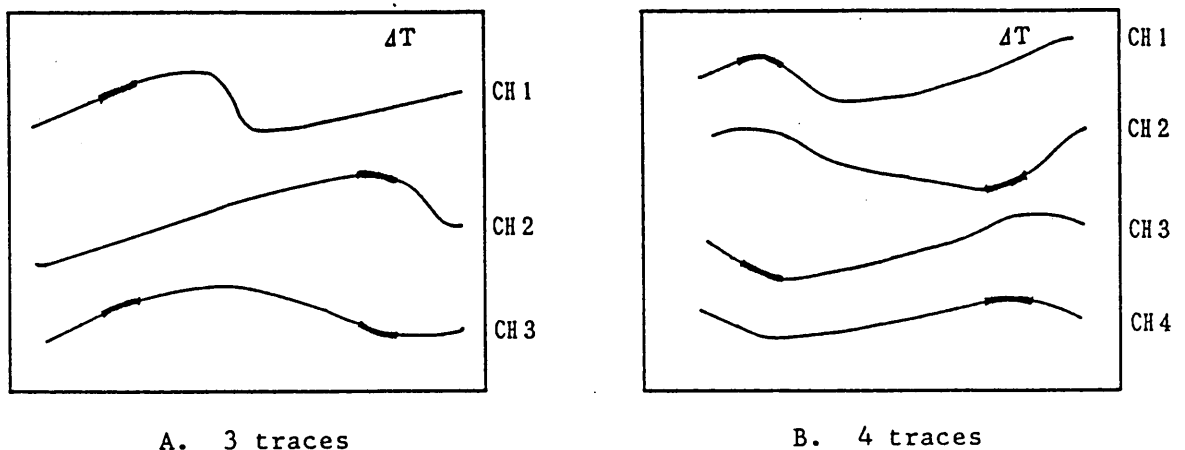

Figure 4-9. Multi-trace Delayed Sweeps
When in the 3-trace mode, one intensity-modulated section is displayed on each of the waveforms of the two leftmost channels as indicated at the VERT MODE ③⑨ and two intensity-modulated sections are displayed on the waveform of the remaining channel. For example, when in a 3-trace mode with CH1, CH2 and CH3, one intensity-modulated section is displayed on each of the CH1 and CH2 waveforms and two intensity-modulated sections are displayed on the CH3 waveform. (See Figure 4-9 A.)
When in a 4-trace mode, one intensity-modulated section is displayed on each of the channel waveforms. (See Figure 4-9 B.)